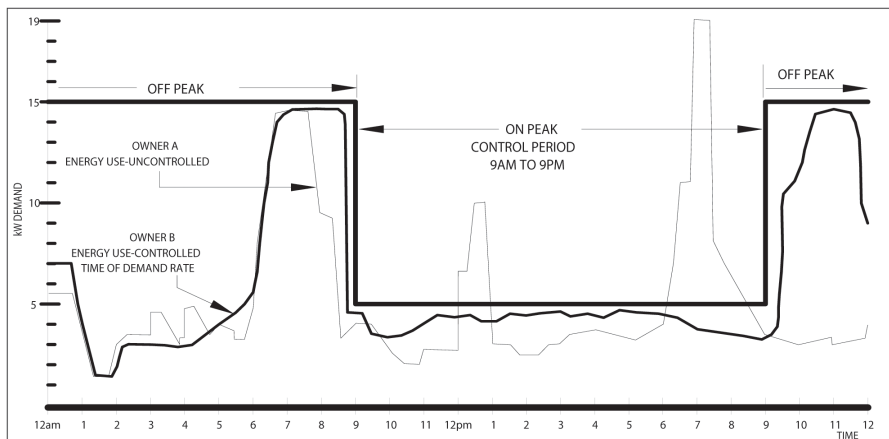

Figure 1.
Under the Energy rate, you are billed for total energy used per month (total kilowatt-hour use) regardless of how you use this energy. Owner A in Figure 1 illustrates a typical daily energy use pattern. Notice the demand peaks in the morning and evening. Under the Energy rate, these peaks do not affect Owner A's bill since he pays for the total Kwh use only.
Utility companies are concerned about these demand peaks since they increase the costs of supplying electricity to their customers. As a result, they have devised the TOU Demand Billing rate, which is a preferred rate, to reward customers who control their peak usage of electricity in On-Peak times. Billing under the TOU Demand rate works like this: Suppose you are heating or cooling your home, washing dishes, drying clothes and cooking the family dinner all at the same time. Chances are your home is at peak energy usage or drawing electricity from the electric company at a maximum rate. This peak energy usage is illustrated by Owner A in Figure 1. Under the TOU Demand rate you pay for both total energy used (in Kwh like the Energy rate) and for your highest average peak energy usage during the On-Peak time over the billing period (highest average KW demand).
Now let's look at Owner B in Figure 1. In this case, Owner B is billed under the TOU Demand rate. He has controlled his peak demand during the On-Peak time and has consequently reduced his Demand charge. The result will be a lower electric bill for using the same amount of electricity as Owner A. The key to his savings is in controlling his peak energy usage by leveling his energy demand during the utility's On-Peak time.
In a typical all-electric home, the morning routine may involve turning up some thermostats, operating the range, water heater and other appliances. Normally, operation of these loads causes a morning peak (such as that illustrated in Figure 1) which registers on the Demand meter.
The Control/Relay Unit consists of control unit and up to eight power switching relays. The computer is mounted next to the main circuit breaker panel. A rotary knob with a Demand Limit (KW) scale (Figure 1) is provided to set the demand limit and allows for increasing or decreasing the demand level to balance savings with comfort.